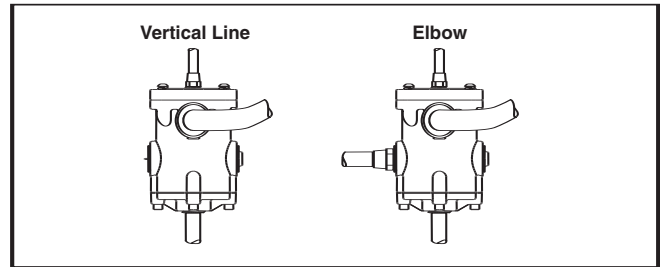

Figure 5 - Empty Line Detection Connections
Step 2 - Connect the fluid lines to the Liquid Level Switch. Hose or pipe connections must be 1/2" (12.70 mm) ID minimum. Vent lines must be 3/8" (9.53 mm) minimum ID and must be routed with no dips, traps or horizontal segments where fluid could accumulate. See Figure 5 for vertical line or elbow line connection diagrams.